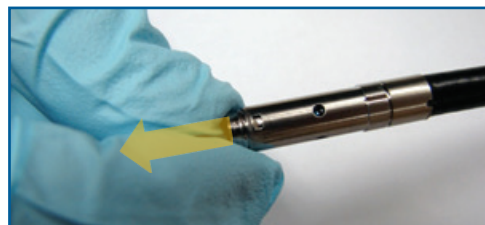

Fig. 3. Gently pull the released Protective Window from the fiber end.
2. Gently pull the loosened Protective Window from the distal end of the Trunk Fiber (Fig. 3).